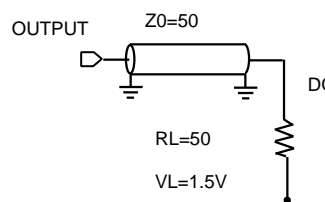
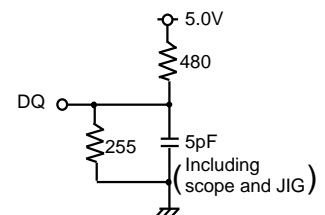

Fig.1 Output load
Fig.2 Output load for ten, tdis
Output loads ..... Fig1, Fig2
4. Transition is measured  $\pm 500\text{mV}$  from steady state voltage with specified loading in Figure 2.